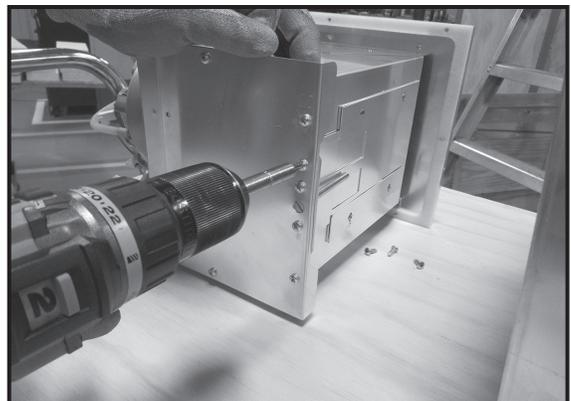

Figure 3.15
7. The air baffle is shipped in the closed position; for certain vent runs the air baffle will need to be adjusted. To adjust the baffle, remove the locking screw. See Figure 3.15. (Refer to section 5B to determine baffle setting.)